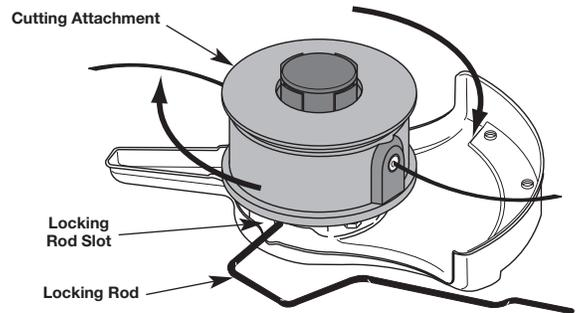

Fig. 8
3. While holding the locking rod, remove the cutting attachment by turning it clockwise off of the output shaft (Fig. 8). Store the cutting attachment for future use.